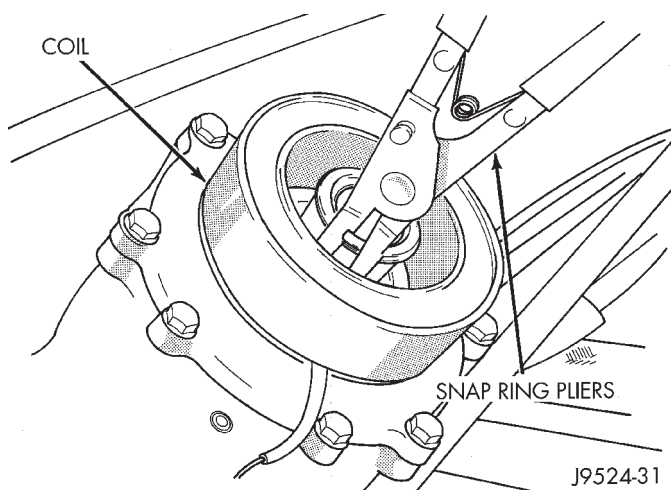

Fig. 24 Clutch Field Coil Snap Ring Remove
(13) Remove the snap ring from the compressor hub and remove the clutch field coil (Fig. 24). Slide the clutch field coil off of the compressor hub.